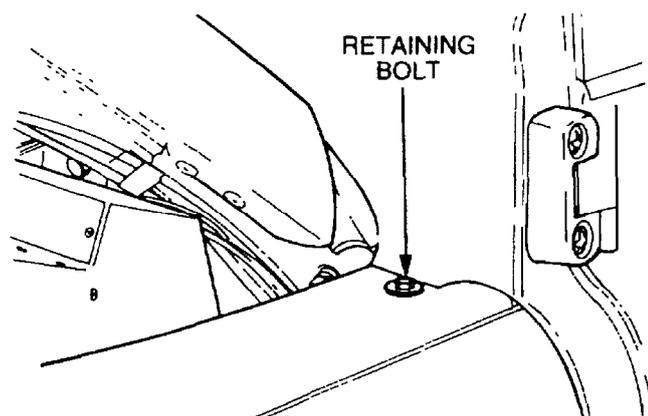

Figure 95 Mudguard-to-firewall Removal
- m. Remove the bolt and flat washer securing the top of the mudguard to the firewall bracket (Figure 95).